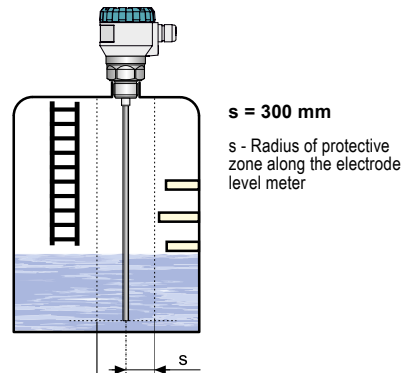

Fig. 13: Level meter installation outside obstacles in the tank
- The level meter generates an electromagnetic guided wave, which creates an electromagnetic field along the electrode. Objects placed close to the electrode disturb the electromagnetic field and thus affect the measurement. Therefore, it is determined a **protective zone** along the electrode of **radius 300 mm**. The level meter is recommended to install the tank so that the items placed inside the tank (ladders, various partitions, mixers, etc.) does not intervene into the protective zone, see Fig. 13.